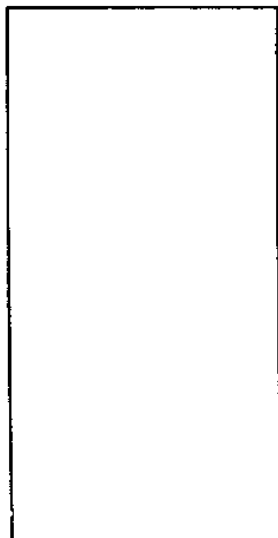

Fig.1
3. Complete figure 1 to show the rear elevation of a 1982 x 762 mm, ledged, braced and battened door. Indicate also the following :-